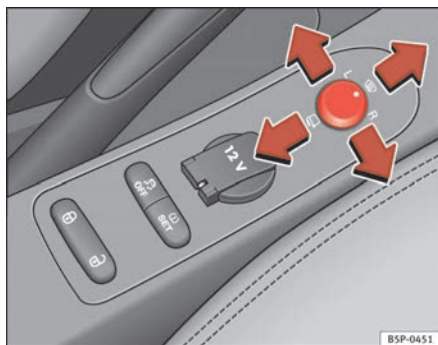

Fig. 89 Controls of exterior mirrors
1. Turn knob ⇒ **fig. 89** to position **L (left exterior mirror)**.
- Turn the knob forwards to the central position ⇒ **fig. 89**  so that the heated rear view mirrors warm up and the heated windscreen* in the wiper blade rest area is activated ⇒ page 123.
- Turn the control ⇒ **fig. 89** to position  to fold in the exterior mirrors. You should always fold in the exterior mirrors if you are driving through an automatic car wash. This will help prevent damage.